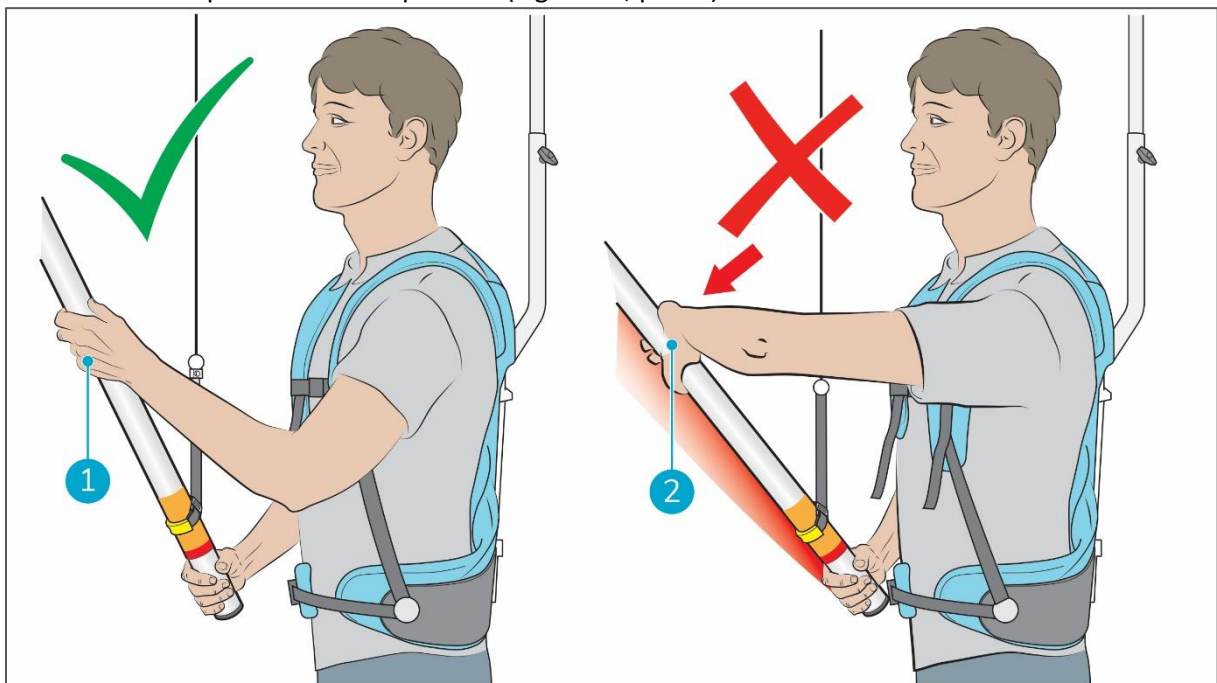

Figure 13
9. Take the telescopic pole with one hand above and one hand below the support strap (Figure 13, pos. 1).
Do not work with your hand on top of the telescopic pole (Figure 13, pos. 2). This puts too much strain on your arm and shoulder and can cause injuries.